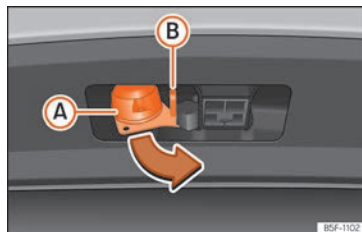

Fig. 306 Turning the 13-pin connector
- Grip the connector in area (A) and remove it in the direction of the arrow » Fig. 306.
- Open the cover of connector (A) and connect the trailer » Fig. 306.
- Hook the trailer retention cable into the safety eyelet » Fig. 306 (B). When hooked, the retaining cable must **curve** in all trailer positions in front of the vehicle (sharp curves, reverse, etc.).